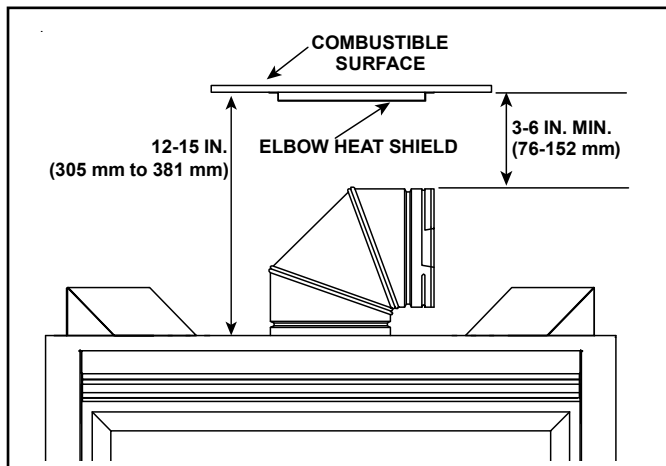

Figure 6.2 Elbow Heat Shield Installation Location
2. If the combustible materials are to be installed between 12 to 15 inches above the top of the appliance, the elbow heat shield is required. See Figure 6.2.
1. The elbow heat shield is not required if combustible materials, or combustible chases, are installed a minimum of 6 inches above the top of the elbow. See Figure 6.2.
2. If the combustible materials are to be installed between 3 inches and 6 inches above the top of the elbow, the elbow heat shield is required. See Figure 6.2.
2. Fasten the shield in place using the four pilot holes. The shield should be oriented such that the 13 1/8 inch dimension (longest dimension) is running in the same direction the elbow is pointing. The shield should be centered directly above the elbow, and positioned so that it creates a 1/2 inch airspace between the shield and the combustable surface. See Figure 6.2